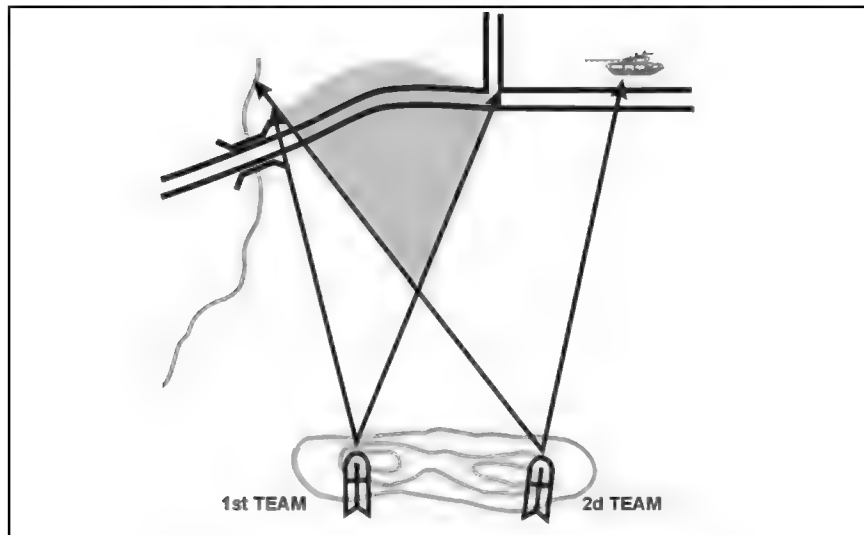

Figure 4-2. Overlapping sectors of fire.
(2) **Overlapping Sectors of Fire.** The gunners may overlap sectors of fire to maximize coverage (Figure 4-2). Overlapping sectors of fire are essential to mutual support.